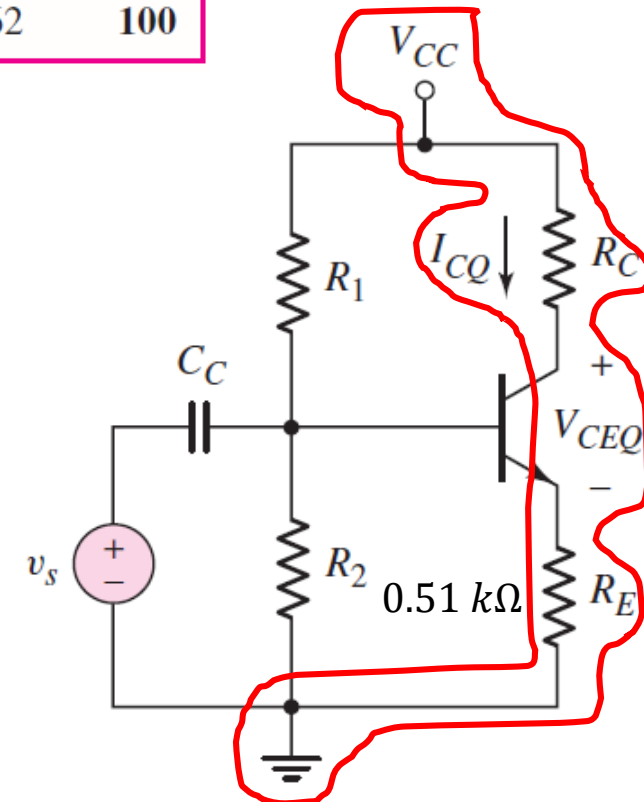

Figure 5.54 (a)
- Using the Thevenin equivalent circuit in Figure 5.54(b), we find: